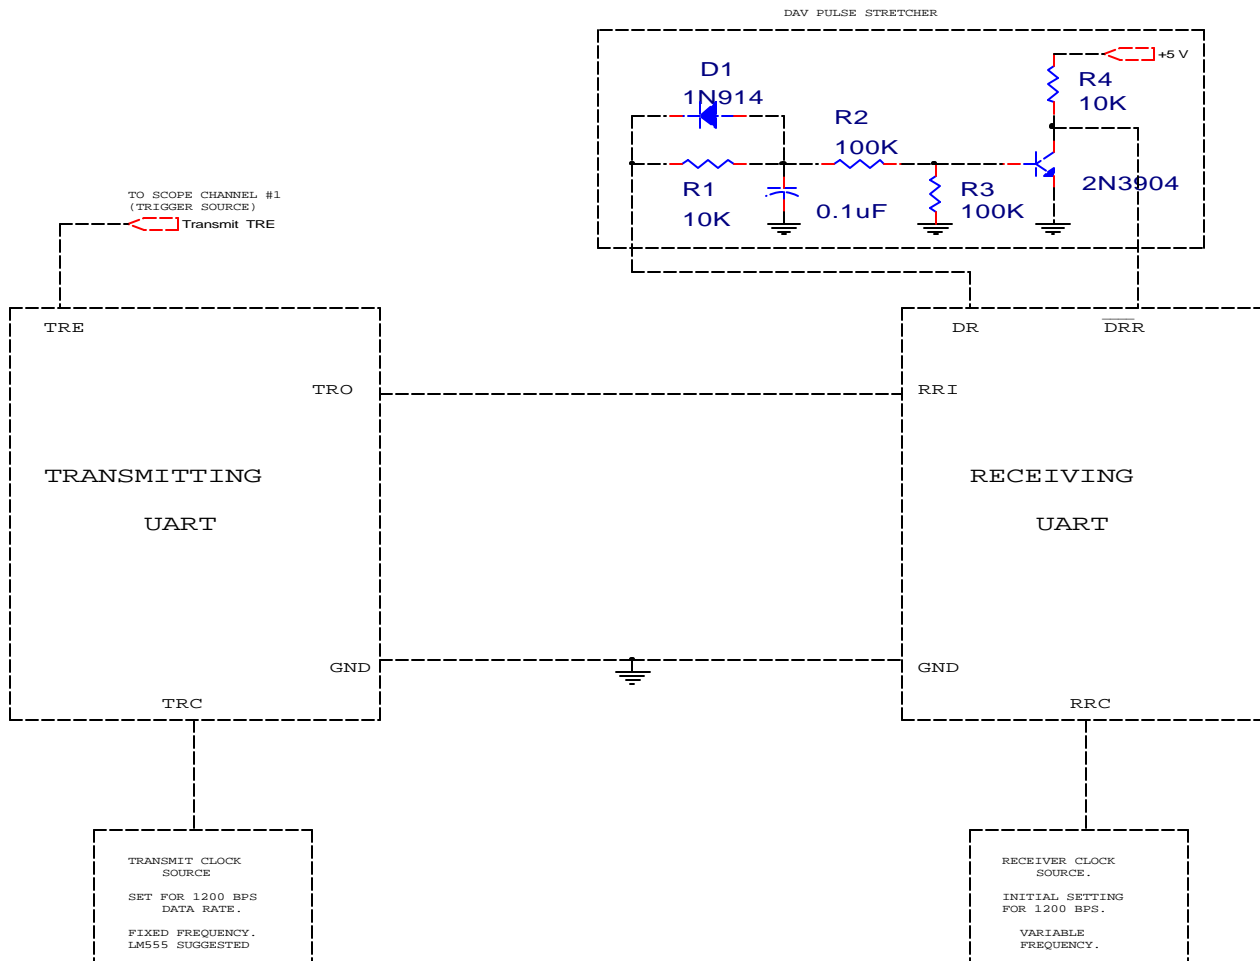

Figure 2: Experimental Circuit Layout
1. A laboratory partner is required for this experiment. One of you will be the transmitter, and the other will be the receiver. Arrange the circuits as shown in Figure 2.